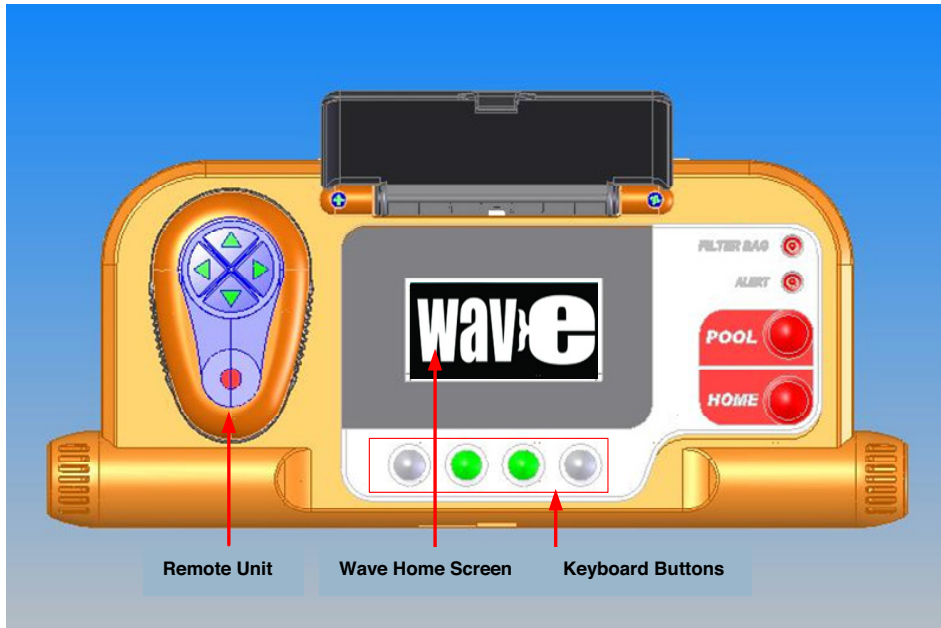

Figure 2: The MMI Dolphin Wave Console
- In this user manual, the instruction press "**Start**" is performed by pressing both green buttons -   - simultaneously on the MMI (Figure 2).